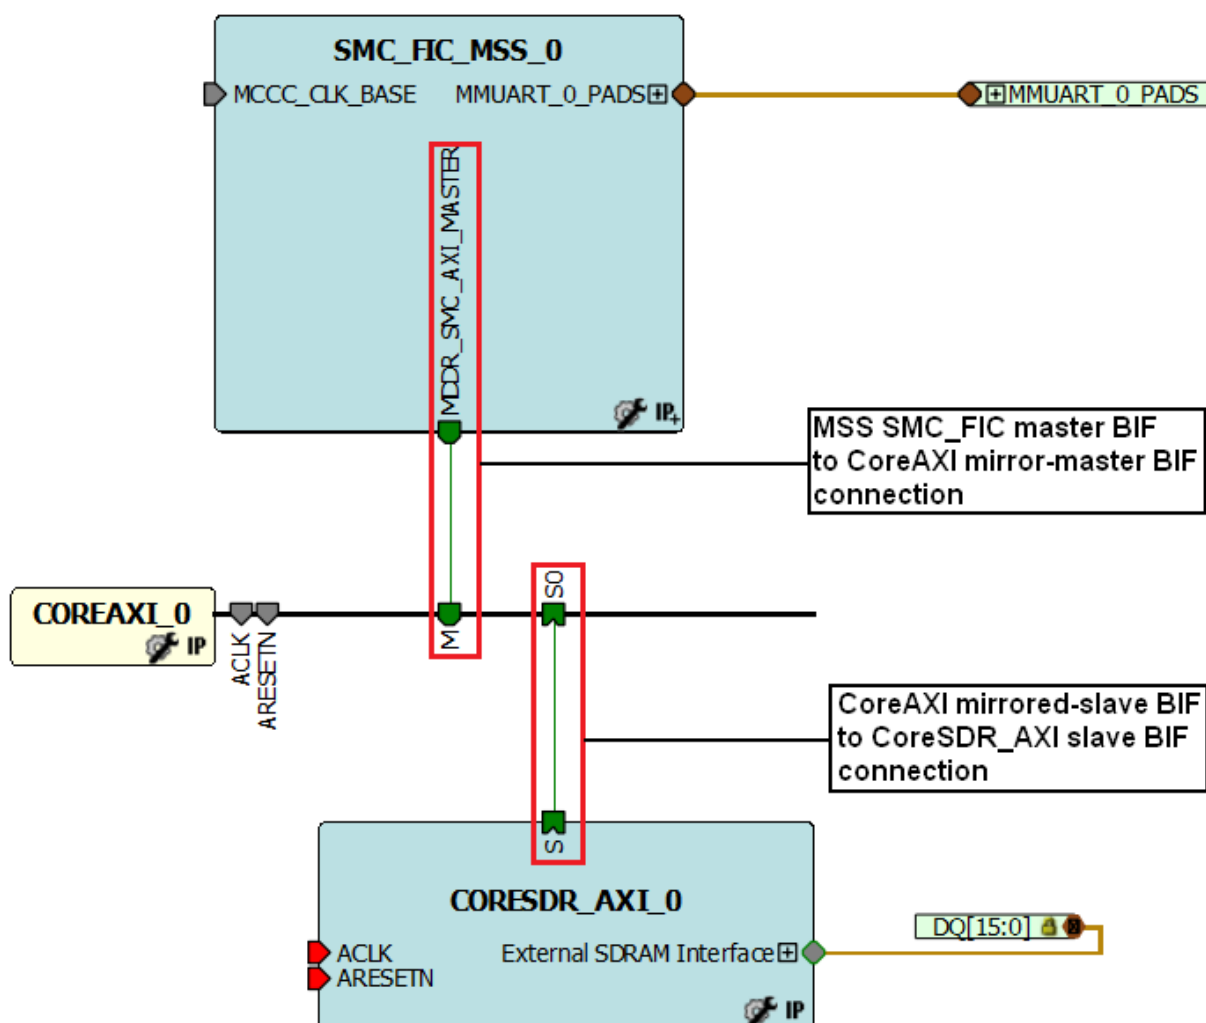

Figure 4-5 • Subsystem Connections in SmartDesign
6. Connect the subsystem together as shown in Figure 4-5 on page 236. Connect the MSS SMC_FIC master interface port, MDDR_SMC_AXI_MASTER, to the CoreAXI bus mirrored-master M0. Connect the CoreAXI mirrored-slave bus interface (BIF) port S0 to the slave BIF port of the CoreSDR_AXI core instance.